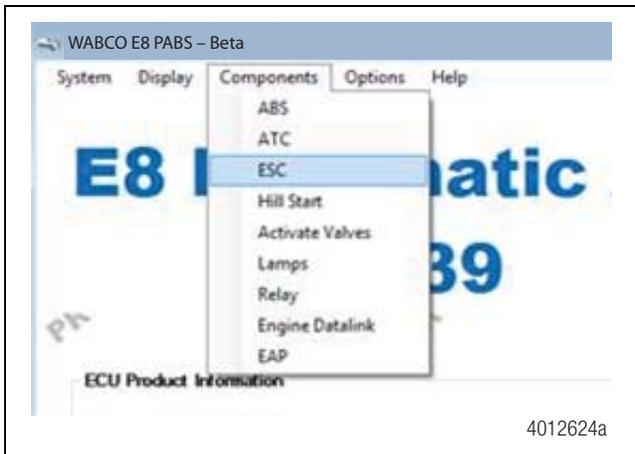

Figure 6
- From the bar menu at the initial screen, click on the “Components” button. A drop-down menu will appear. Select the option “ESC.” Figure 6.